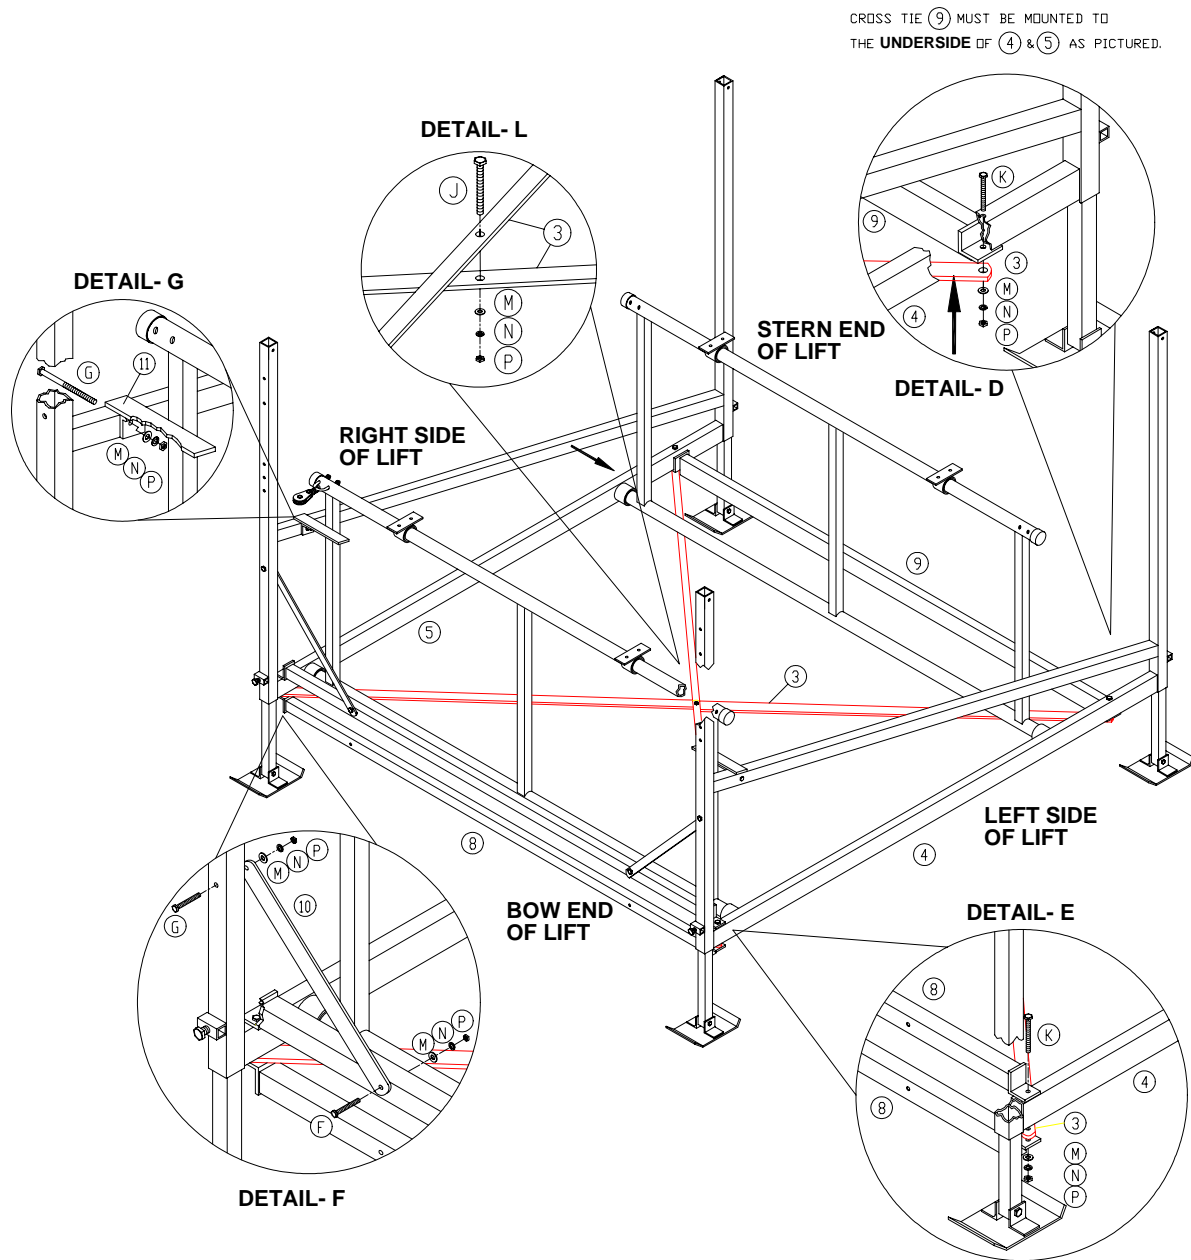

Figure 3-2.
1. Refer to **Figure 3-2**. Attach stern end cross tie and cross diagonals to **underside** of side assemblies as shown in **Detail D**.